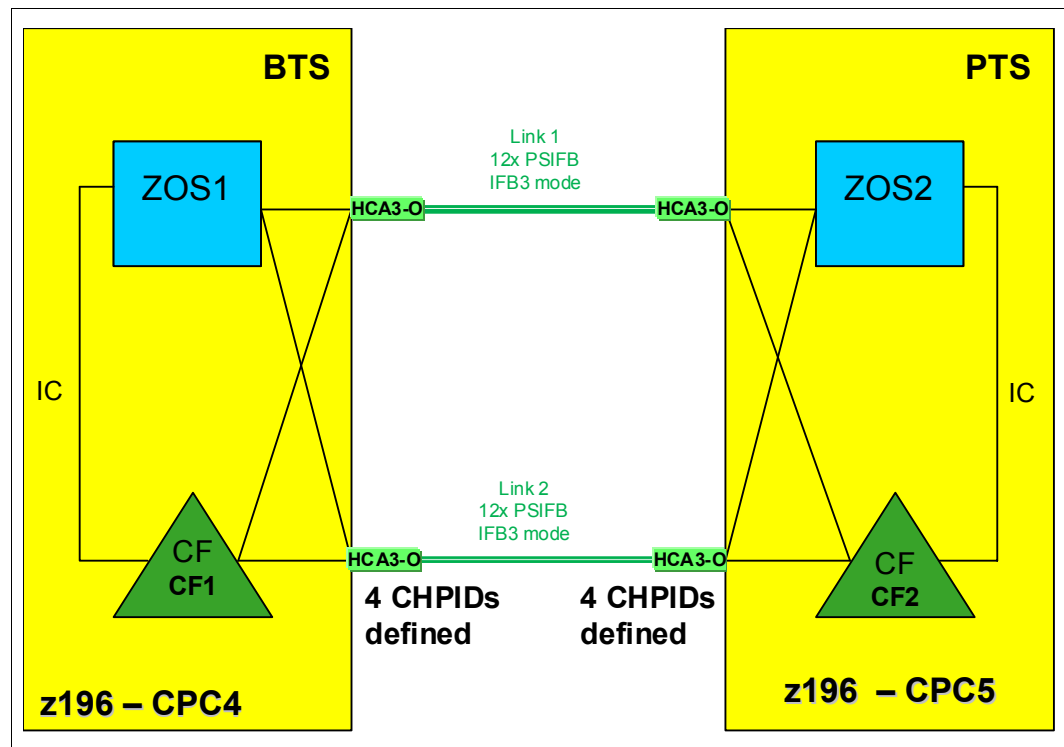

Figure 4-25 Configuration after both CPCs have four CHPIDs defined to PSIFB link 2
10. The final configuration is shown in Figure 4-25.